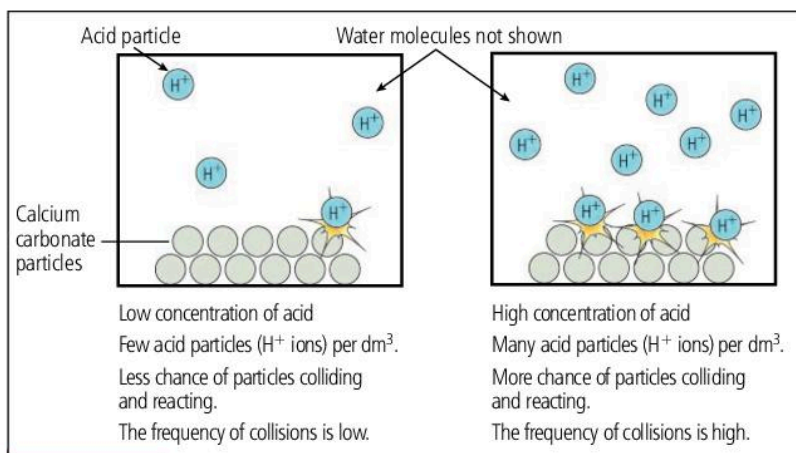

Figure 10.3.2 Explanation of the effect of concentration on rate of reaction
- So there is a greater chance of the particles reacting (Figure 10.3.2).